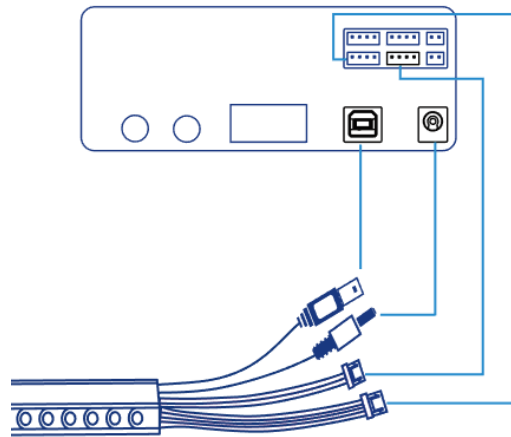

Figure 5.194 Connect V2 Sliding rail to V2 Dobot Magician
- Step 5** Connect the interfaces on the end of the wire set to Dobot Magician, as shown in Figure 5.194.